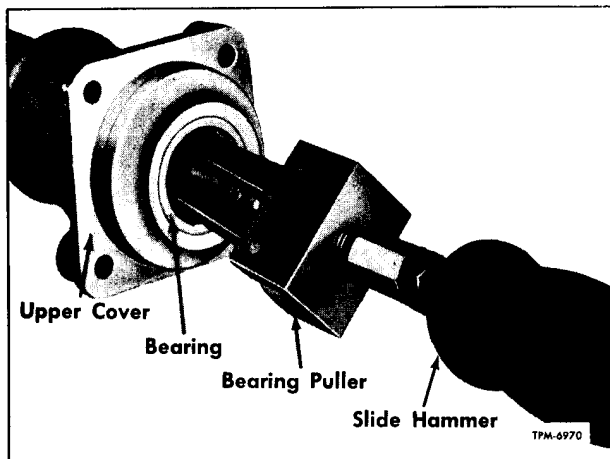

Figure 8—Removing Bearing From Upper Cover
7. With a suitable puller and slide hammer, remove the bearing assembly (34) from bevel gear upper cover (1) (fig. 8).
8. Remove housing vent assembly (4) and reducing bushing (32) from upper cover (1).